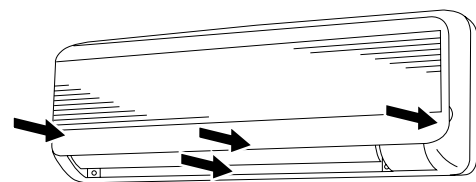

Fig. 19
- (3) Press at each of the 4 tabs to completely close the grille. Make sure that the grille and frame are firmly fitted together. (Fig. 19)